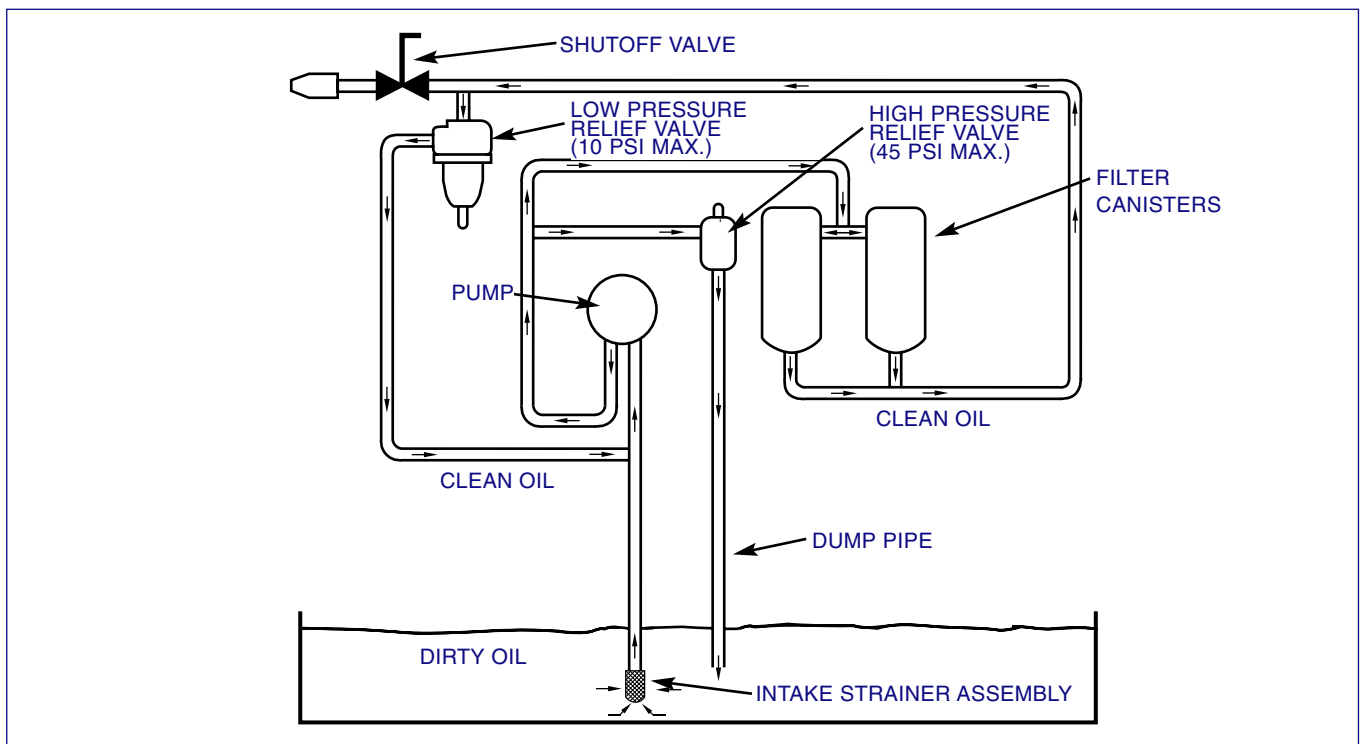

FIGURE 4-6, Oil Flow Diagram
21. Bleed Coolant System (refer to Figure 4-6 on top of page 41):